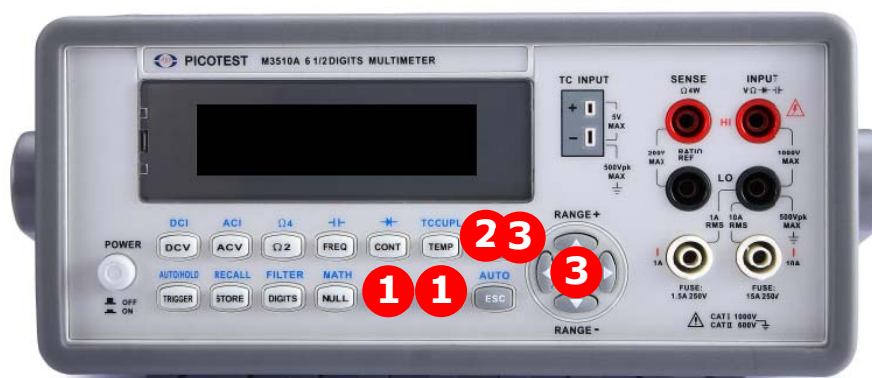

Figure 4-17
1. Press SHIFT+CONFIG button as shown in **Figure 4-17**.